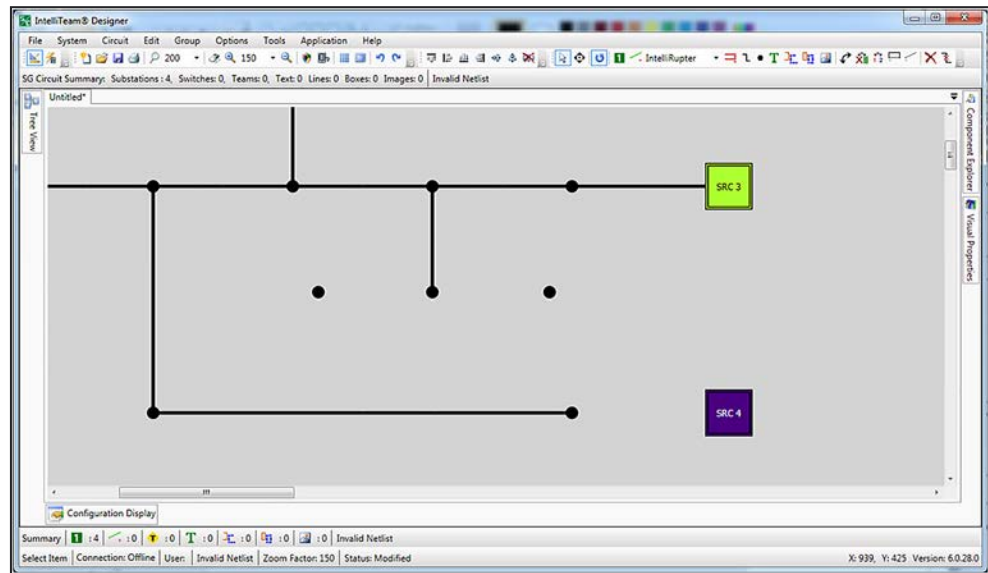

Figure 50. Adding two wire connection points and aligning them.
STEP 8. Using the scroll bars, reposition the circuit (as shown in Figure 49 on page 65) and use the Add Wire Connection tool to add two wire connection points as indicated. Using the alignment and spacing tools, arrange the Wire Connection points to look something like Figure 50.